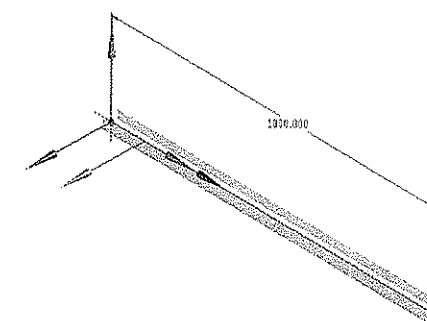

Figure 4-11 The cross-section displayed in the Graphics window
1. Choose the **Cross Section Solids** option from the **View** menu; the cross-section is displayed in the **Graphics** window, as shown in Figure 4-11.